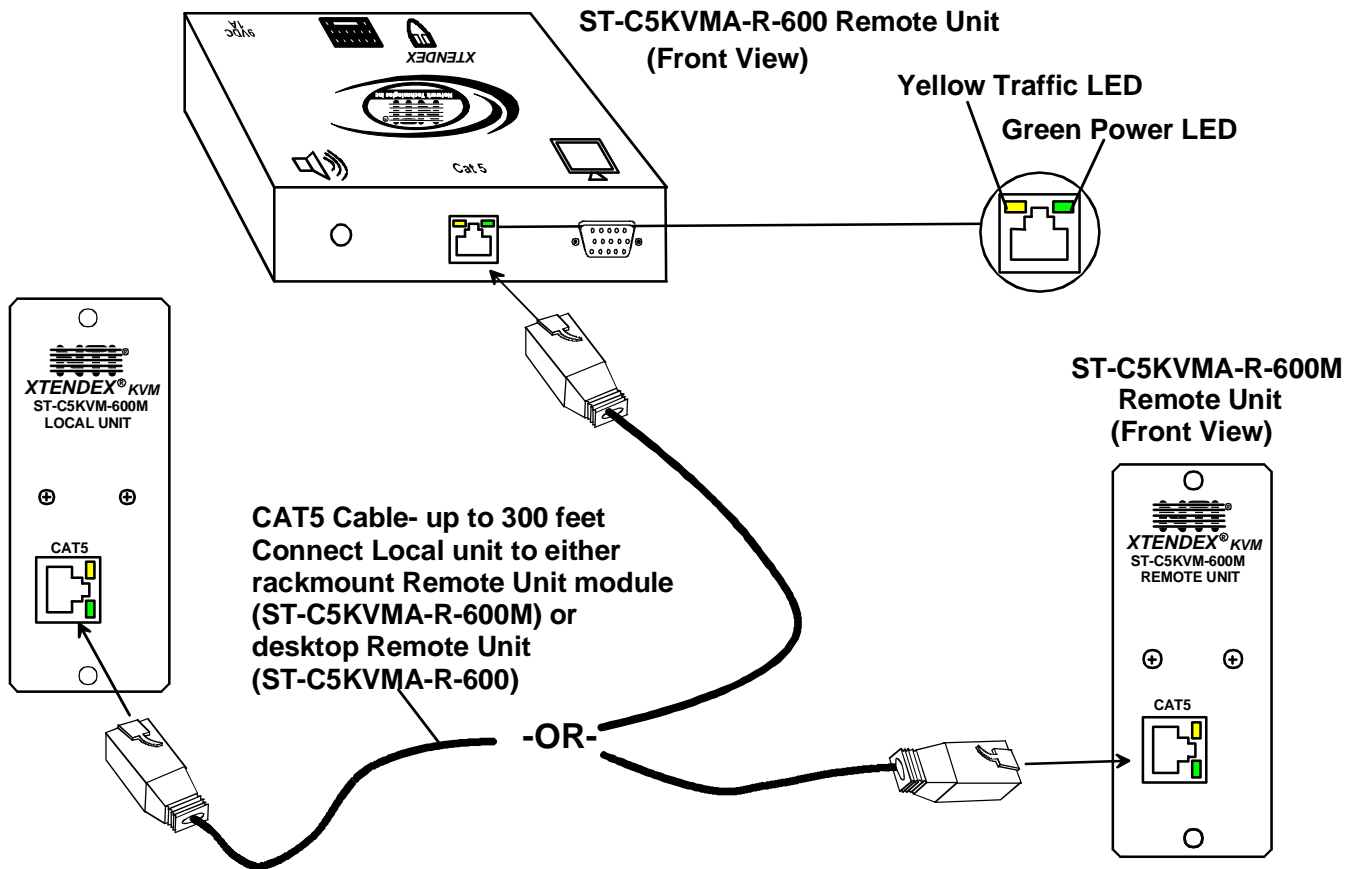

Figure 21- Connect the CATx cable between the Local and Remote Units
Connect the CATx cable to the "CAT5" port on the front of the Local Unit (see Figure 21). When properly inserted the cable end should snap into place. Connect the other end of the cable to the "CAT5" port on the Remote Unit.
4. Turn ON the CPU and monitor(s). The CPU and monitor(s) should each react as if they were directly connected to each other. The yellow "Traffic" LEDs on the Remote and Local Units (see Figure 21) should blink indicating there is proper communication between them.